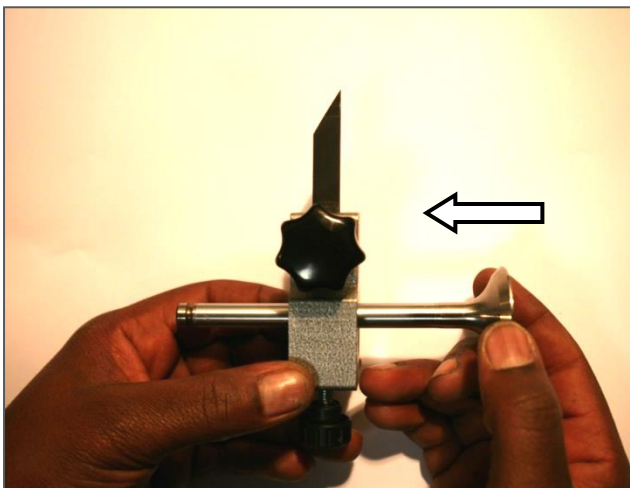

Fig. 12
8. The grinded valve can be inserted in the formtool setting gauge and the knurled head screw can be slightly tightened. In this position the valve stem must remain moveable. Fig. 12